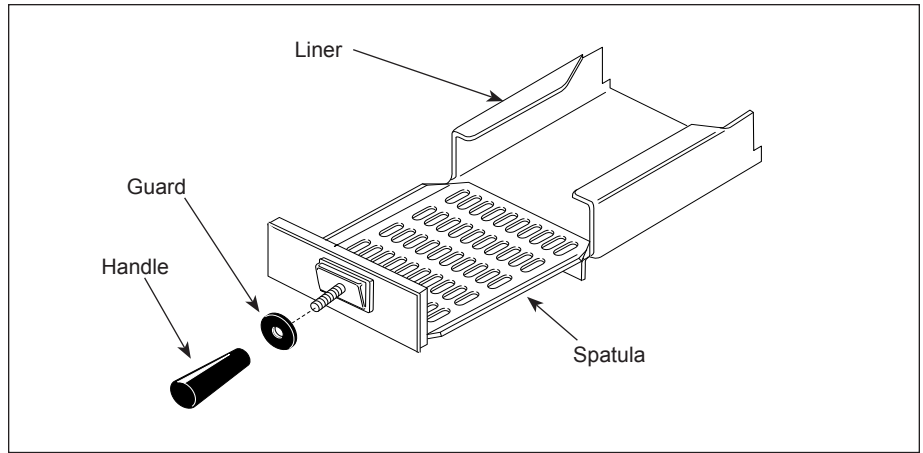

Figure 1. Spatula Assembly
4. Remove and wash the Spatula(s) and Liner(s) (Figure 1) in soap and water. Rinse with clean hot water and allow to air dry.
6. Assemble the Handle and Handle Guard to the Spatula(s) (Figure 1).